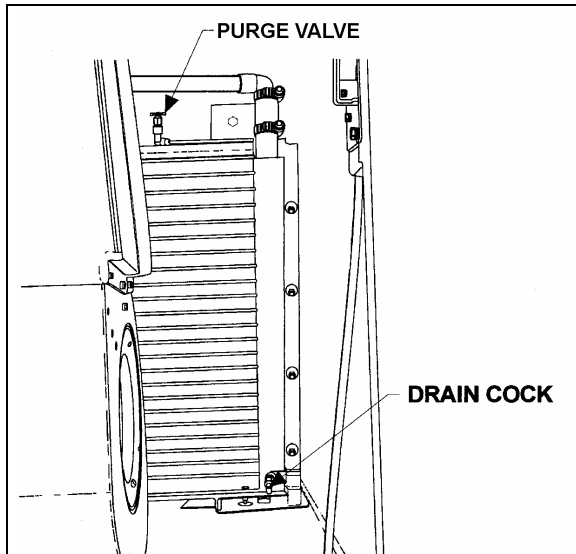

FIGURE 53: PASSENGER'S UNIT HEATER CORE (H3 COACHES)
4. Open drain cock in bottom of heater core, then open purge valve located on top of heater core (Figure 53) in order to allow air to enter while draining.
and Figure 53, and open them momentarily until no air escapes from the lines.